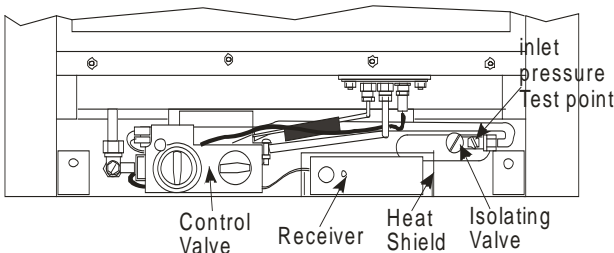

Figure 36
3. Feed the cable from the receiver unit to the spade terminals on the control valve, keeping the cable clear of the underside of the combustion chamber. The cable connectors must be matched to the appropriately sized spade connector (see **Figure 36**).